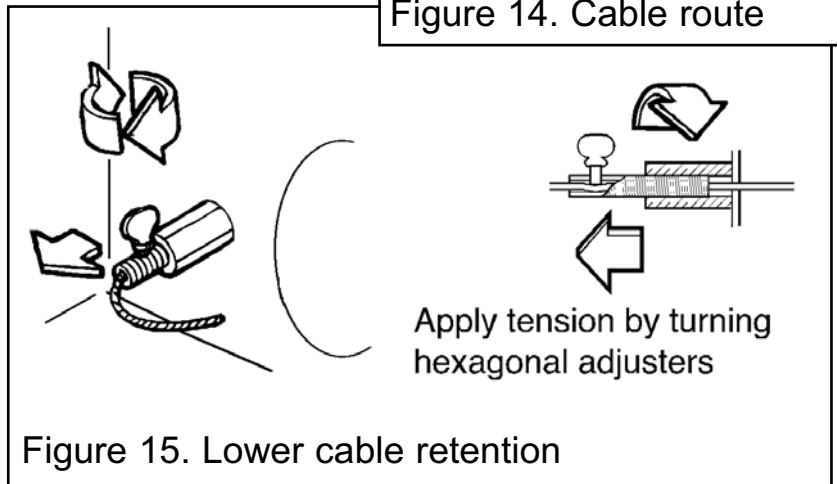

Figure 15. Lower cable retention
9. Pull each cable taut. Push the cable retainers hard up against the back panel. Tighten the screws in the retainers so that they clamp the cables in position. Apply tension to the cables by turning the hexagonal adjusters by hand (See figure 15).